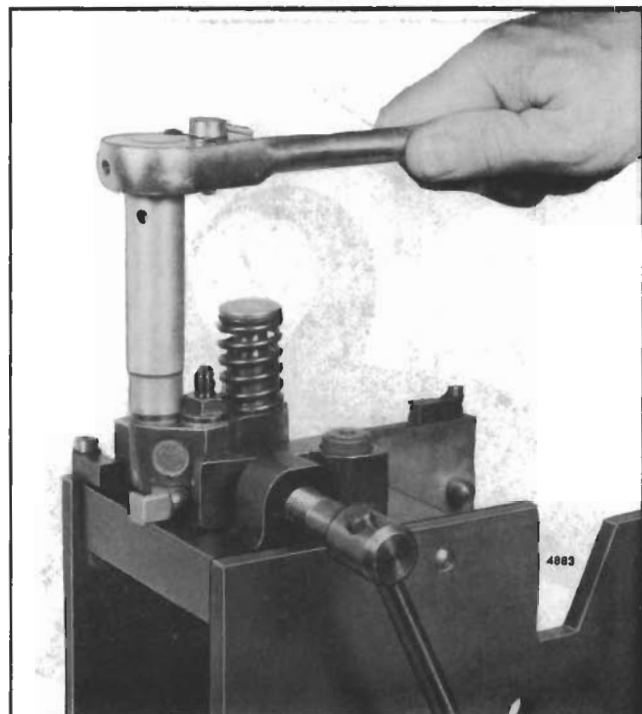

Fig. 23 - Removing or Installing Filter Cap
1. Support the injector upright in injector holding fixture J 22396 (Fig. 23) and remove the filter caps, gaskets and filters.